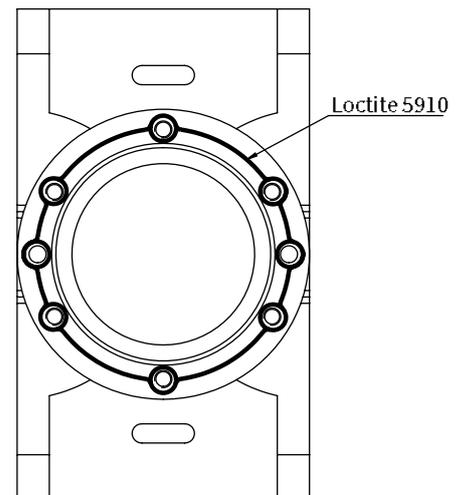

Fig. 13.22
- Seal adaptor stool (1730) onto top housing with Loctite 5910 see Fig. 13.22